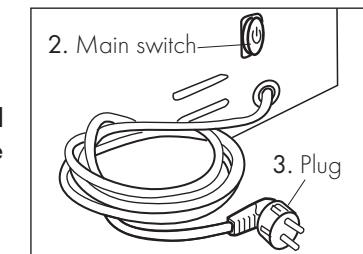

Fig. 1
Switch off the machine with the main switch (2) and always disconnect the plug (3) from the socket if the appliance is not being used (Fig. 1**).**